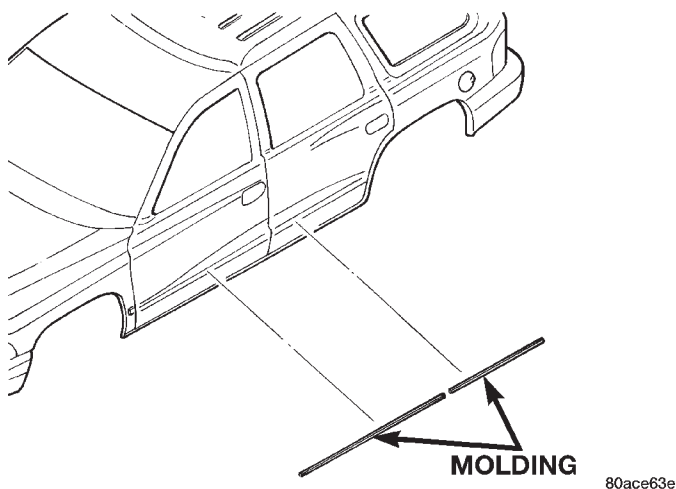

Fig. 64 Body Side Moldings
(1) Apply a length of masking tape on the body, parallel to the top edge of the molding to use as a guide, if necessary.
(2) Warm the effected stick-on molding and body metal to approximately 38°C (100°F) using a suitable heat lamp or heat gun.
(3) Pull stick-on molding from painted surface (Fig. 64).